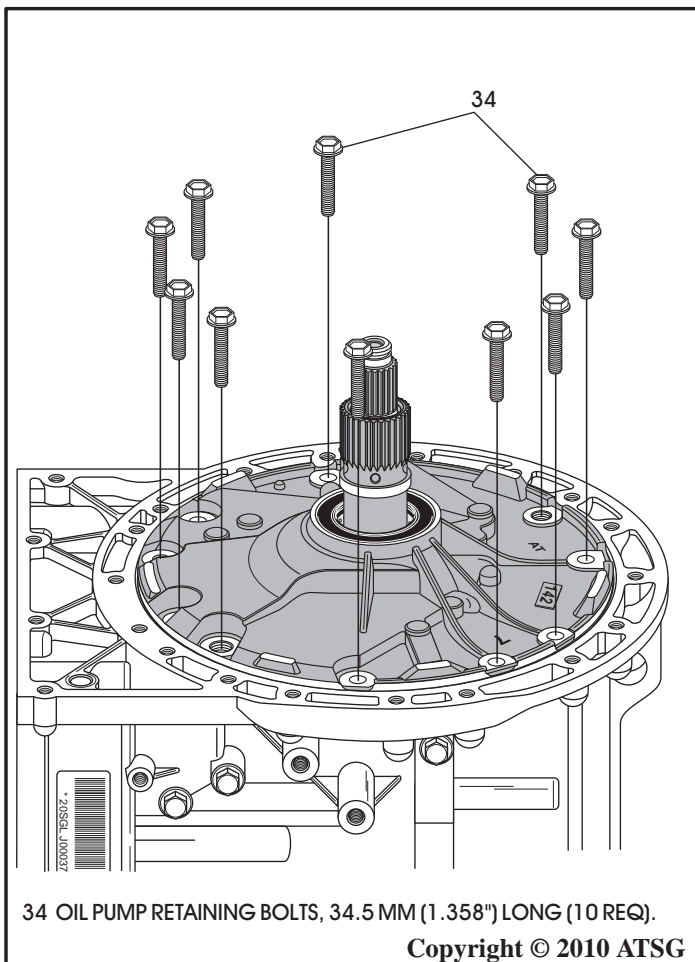

Figure 53
29. Remove the ten oil pump retaining bolts, as shown in Figure 53.